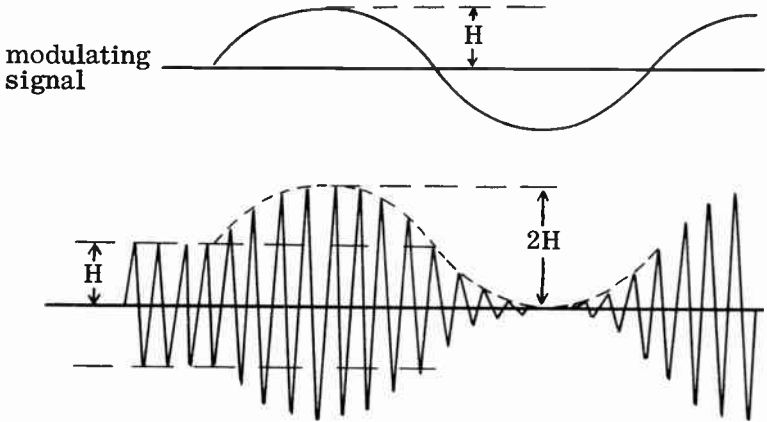
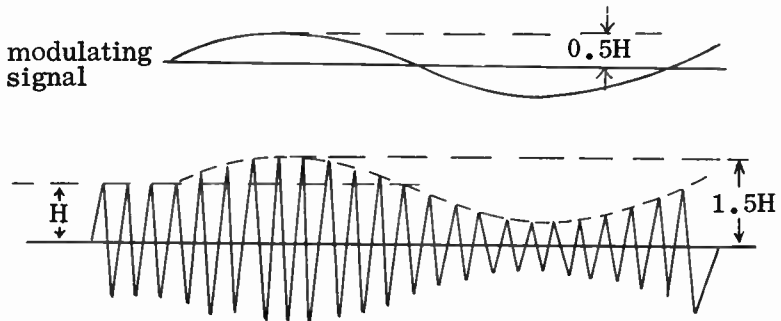
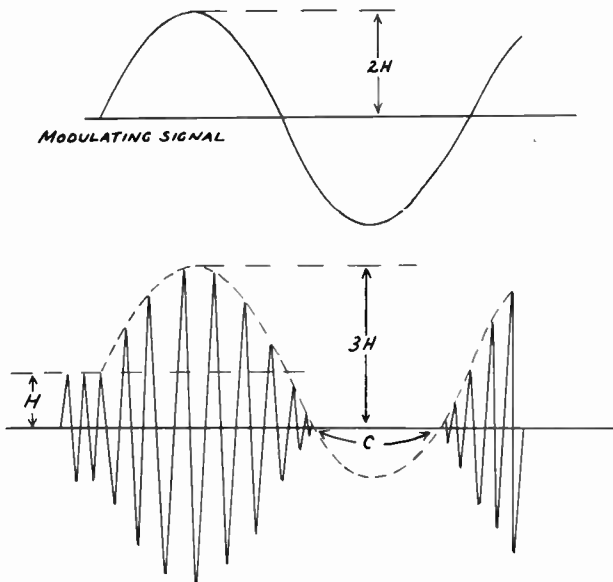

FIG. 14-3. 100% AMPLITUDE MODULATION.
FIG. 14-4. 50% AMPLITUDE MODULATION.
FIG. 14-5. OVERMODULATION.
For example, Fig. 14-3 illustrates a carrier that is 100% modulated. Notice that the highest peak of the modulated wave is exactly twice as high as the peak of the carrier before modulation. Also notice that the minimum point of the modulated signal is at zero amplitude. In other words, the peaks of the modulated signal vary 100% above and below the peaks of the unmodulated carrier. This is the condition for 100% modulation. Fig. 14-4 shows an example of 50% modulation. The carrier of Fig. 14-4 is the same in
amplitude as the carrier of Fig. 14-3. The modulating signal of Fig. 14-4 is, however, half the amplitude of the modulating signal of Fig. 14-3. The maximum peak of the modulated signal is one and one-half times the peak of the unmodulated carrier, and the minimum is one half times the peak of the unmodulated carrier. In other words, the peaks of the modulated carrier vary 50% above and below the peaks of the unmodulated carrier.
If the carrier level is kept the same and the modulating signal is increased above that of Fig. 14-3, we get the wave shown in Fig. 14-5. This illustration is the waveshape of an **OVERMODULATED** carrier. During the interval labeled "C", there is actually no output from the transmitter.
The 100% modulated carrier of Fig. 14-3 is theoretically the most desirable in terms of reception. It produces the strongest possible undistorted signal at the receiver end. The 50% modulated signal is considered an **UNDERMODULATED** signal. It produces an undistorted but weak signal at the receiver end. The overmodulated signal is highly undesirable since it results in a distorted signal at the receiver end. Overmodulation also produces spurious radiation, which causes interference with nearby frequencies. The relationship between the percentage of modulation and the shape
**SIDEBANDS.** The waveshapes of Figures 14-3 and 14-4 are actually the result of a combination of several frequencies. It is not possible to tell, merely by looking at a waveshape, what frequencies are combined to give it the shape that it has. However, these frequencies can be determined by mathematical analysis. For example, it has been determined that when a 1 kHz audio-frequency modulates a 1000 kHz carrier, the resultant signal will be a complex modulated wave containing the following component frequencies:
An examination of Fig. 14-3 will show that the peak modulated RF output voltage during 100% modulation is twice as high as the unmodulated output carrier voltage. This is also true for the plate current. The RF power amplifier when modulated must, therefore, be capable of handling peak voltages and currents that are twice as great as unmodulated voltages and currents. They must also be capable of handling peak powers that are four times as great as the unmodulated power. The power varies as the square of the voltage or current. Since the voltage and current peaks double on 100% modulation, the peak power quadruples ( $2^2 = 4$ ) on 100% modulation.